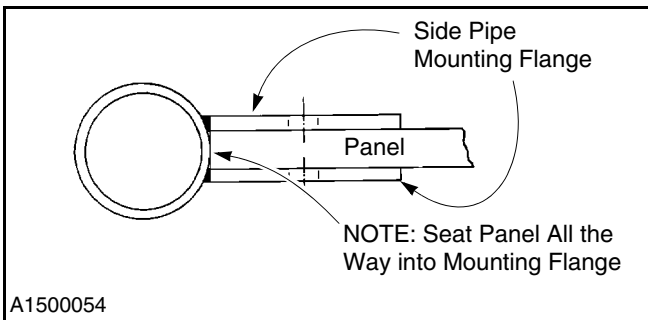

Figure 52
- Insert the outside edge of the outer panel into the mounting flange of the adjoining side pipe. Seat the panel all the way into the flange. (See Figure 52.)